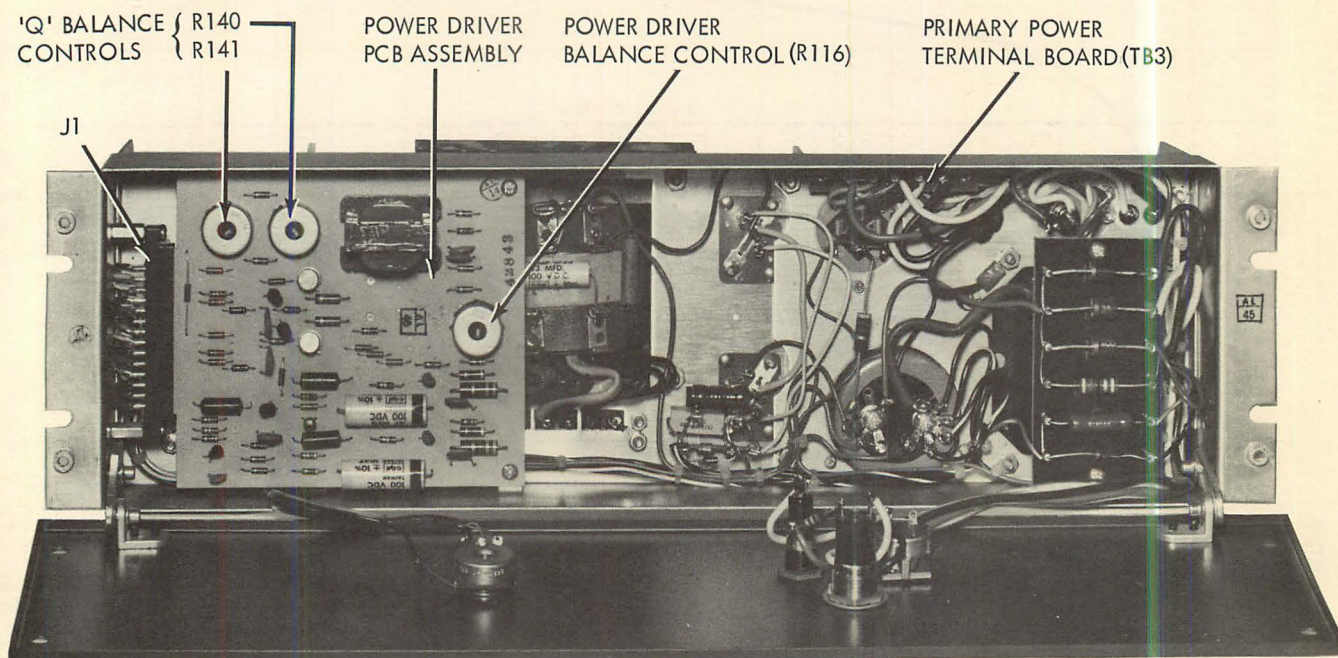

Figure 3. Front View With Hinged Panel Open
- Step 1. Remove four screws securing front panel. Open and lower panel as shown in Figure 3.
- Step 2. Locate terminal board TB3 (see Figure 3).
- Step 6. Adjust R116 on Power Driver PCB (see Figures 3 and 10) until minimum distortion is observed on distortion measuring instrument.
Output "Q" Balance Controls R140 and R141 on Power Driver PCB (see Figure 3) balance the bias current of power transistors Q1, Q2, Q3 and Q4. Inadequate adjustment of these controls may result in distortion and excessive current drain from one or more power transistors. If adjustment is indicated (such as replacement of one or more power transistors), use the following recommended procedure:
- Step 3. Turn Output "Q" Balance Controls R140 and R141 fully clockwise (see Figure 3).
- Step 1. Remove four screws securing front panel. Open and lower panel for access to PCB (see Figure 3).